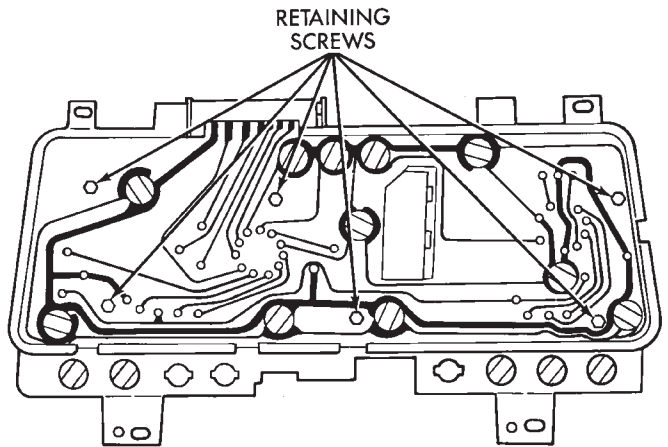

Fig. 18 Printed Circuit Board
- (1) Remove cluster bezel.
- (2) Remove instrument cluster.
- (3) Remove tachometer drive module, if equipped.
- (4) Remove six retaining screws (Fig. 18).